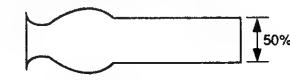

Fig.4-3-4
- If the front half of the envelope waveform is as shown in Fig.4-3-4 (a), this means that you have pressed the S guide roller too far. Therefore, loosen it slightly, and when it is in the state shown in Fig.4-3-4 (b), tighten it again, stopping when the envelope waveform is flat.
- If the front half of the envelope waveform is as shown in Fig.4-3-4 (b), this means you have not pressed the S guide roller far enough. Therefore, tighten it slightly, stopping when the envelope waveform becomes flat.
- If the front half of the envelope waveform is as shown in Fig.4-3-4 (c), it may happen that when you tighten the S guide roller, the wrapper waveform does not disappear, but sinks into the flat part, as shown in Fig.4-3-4 (d). If this happens, the status shown in Fig.4-3-4 (c) is normal, so loosen the S guide roller, then tighten it again until the envelope waveform is as shown in Fig.4-3-4 (c).